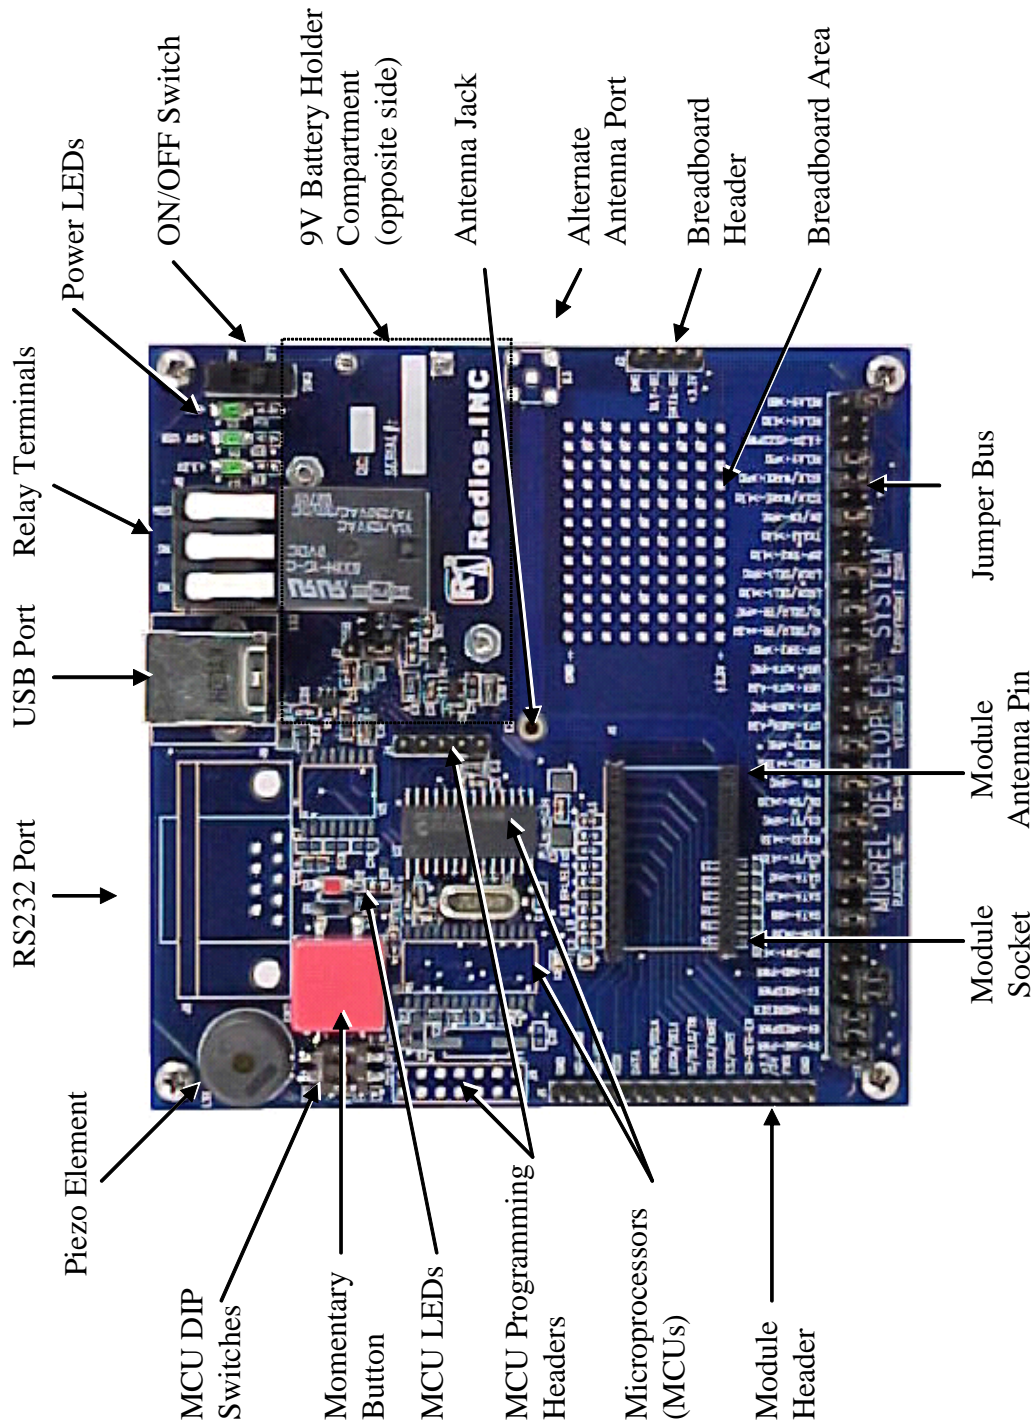

FIGURE 1
- One/Two DS-ML development boards (Figure 1)
4. Install one monopole antenna per unit into PCB mounted jack indicated by "Antenna Jack" in Figure 1.
10. Insert desired module into socket indicated by “Module Socket” in Figure 1 by lining up antenna pin on desired module with the antenna pin on the DS-ML.
When interchanging modules on the DS-ML, care must be taken to avoid input/output conflicts. First turn off the power to the DS-ML and carefully remove the module from the “Module Socket”. See Figure 1. Verify the jumpers are set according to user’s needs and turn on power to the DS-ML. Reconnect the USB or Comm port, by selecting the appropriate USB or Comm setting from the Port menu in software. In software, select the module being used from the Module menu and insert the desired module into the “Module Socket”. Interchanging modules without following the preceding instructions, could damage the module as well as the DS-ML.
The DS-ML allows for two antenna polarizations and several different antenna types such as monopole whip, helical, helically loaded whips and others. There are two antenna feed ports: horizontal SMA and direct PCB mount via the on-board jack. The units are shipped with one or two monopole whip antenna which are inserted directly into the antenna jack. (Figure 1)